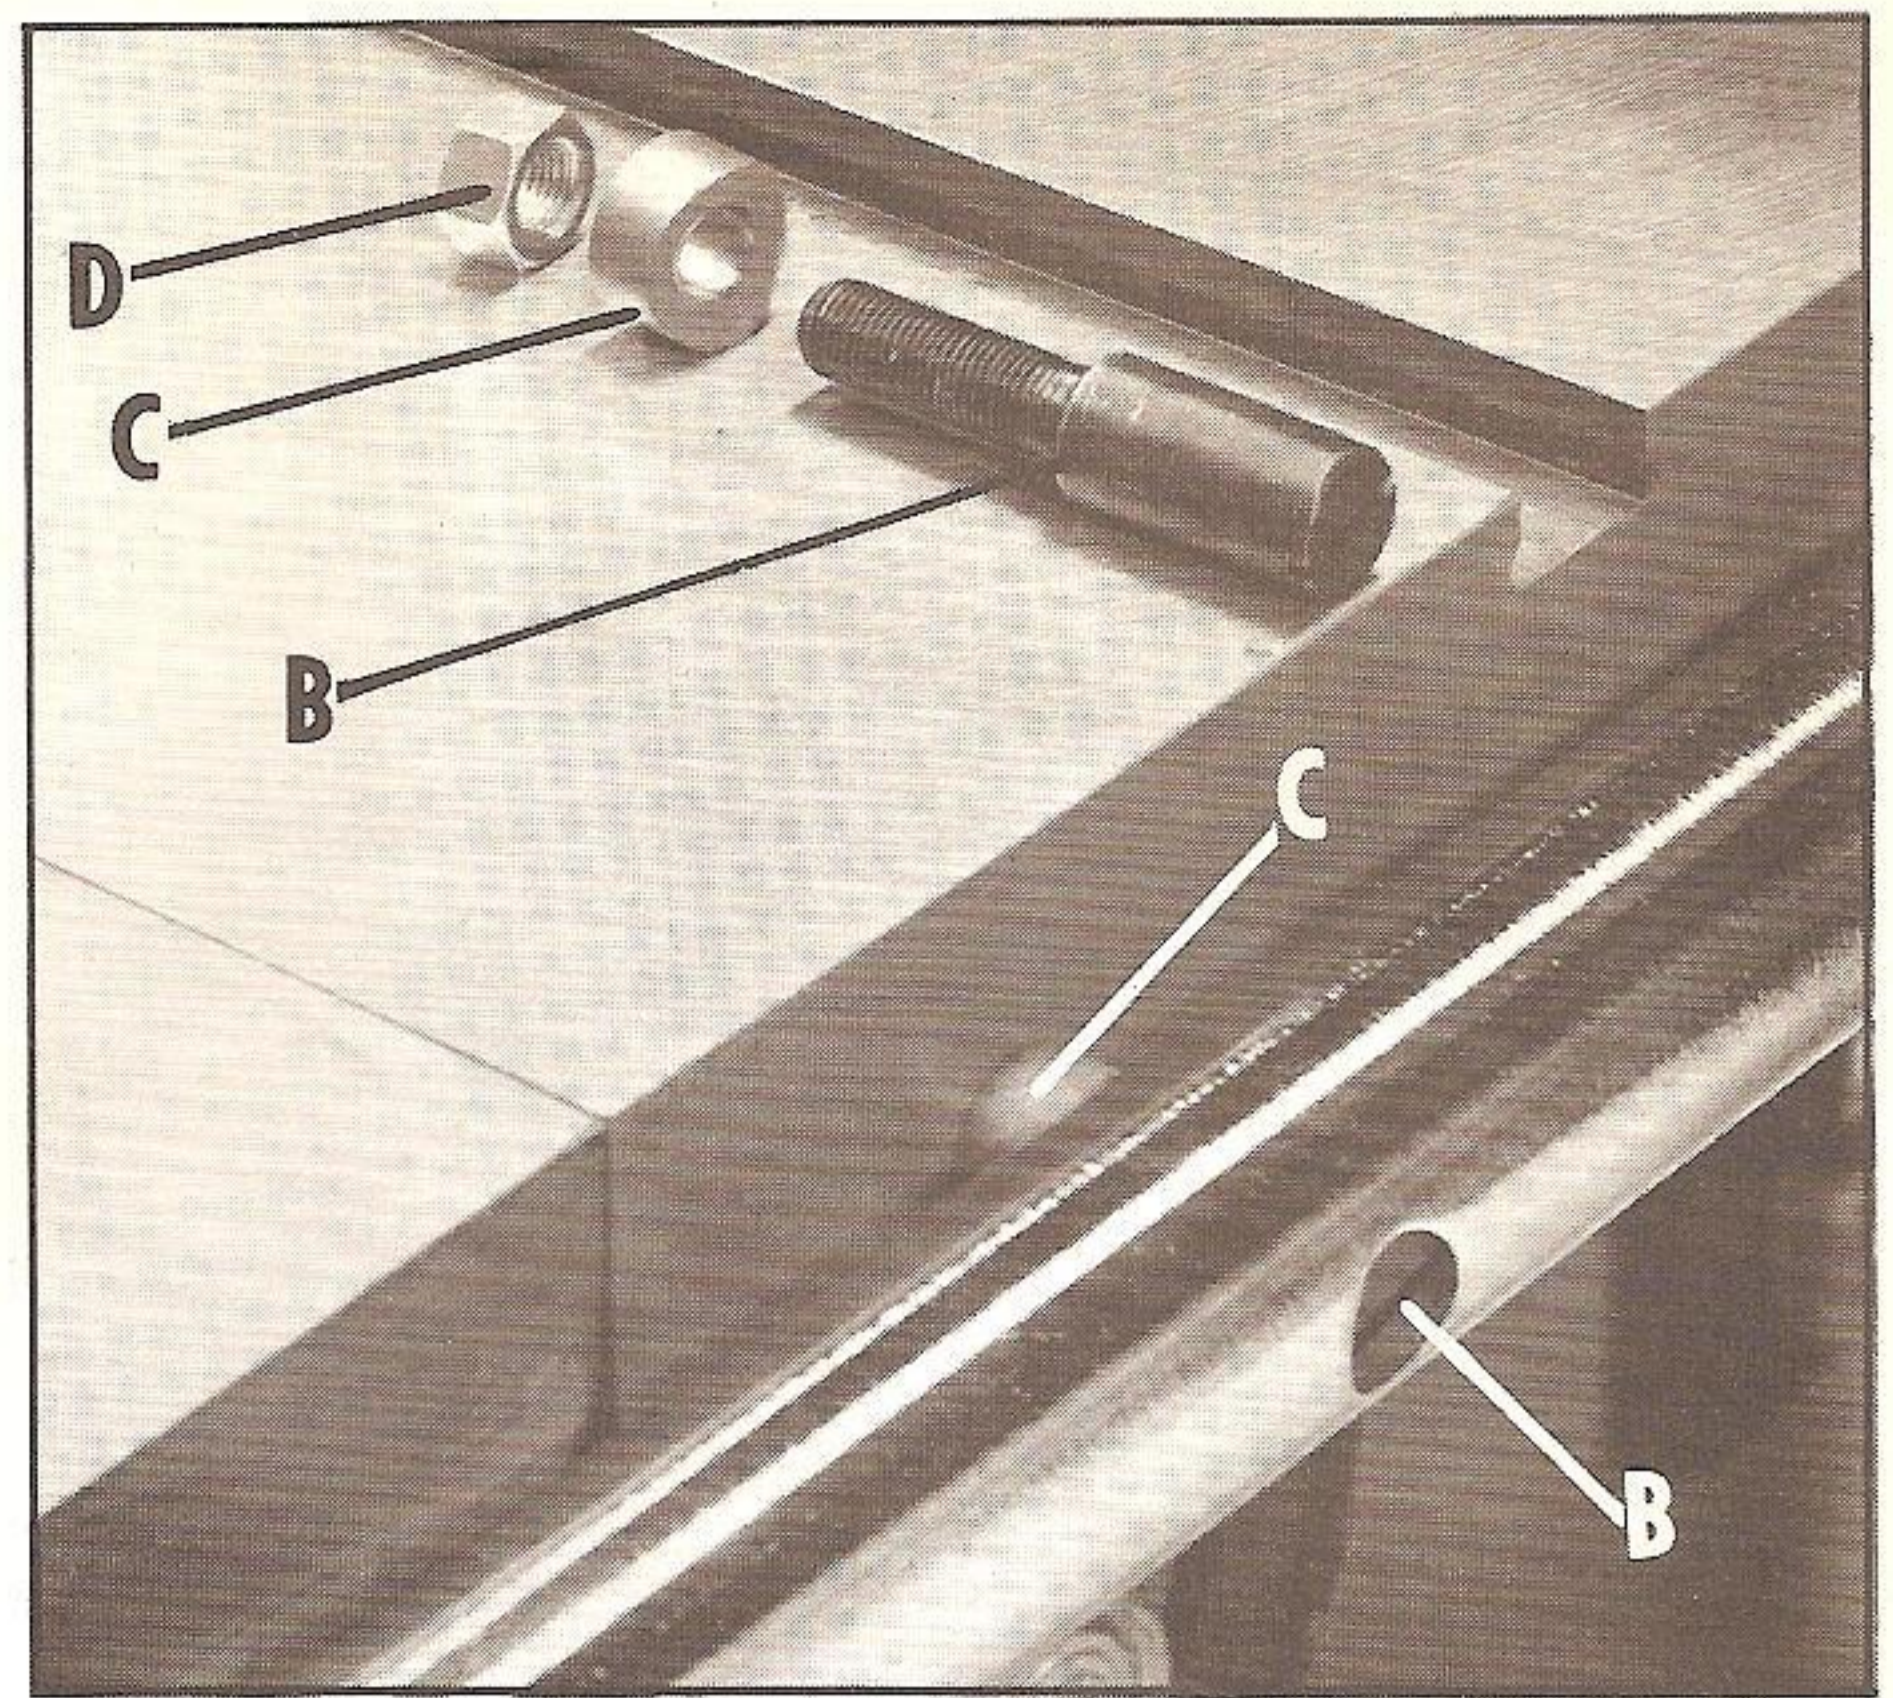

Fig. 7
2. Insert the special screws (B), through the holes in the front rail, the drilled holes in the spacers (C), and on through the holes in the front table. Fasten the front rail to the table using the hexagon nut (D) Fig. 7.